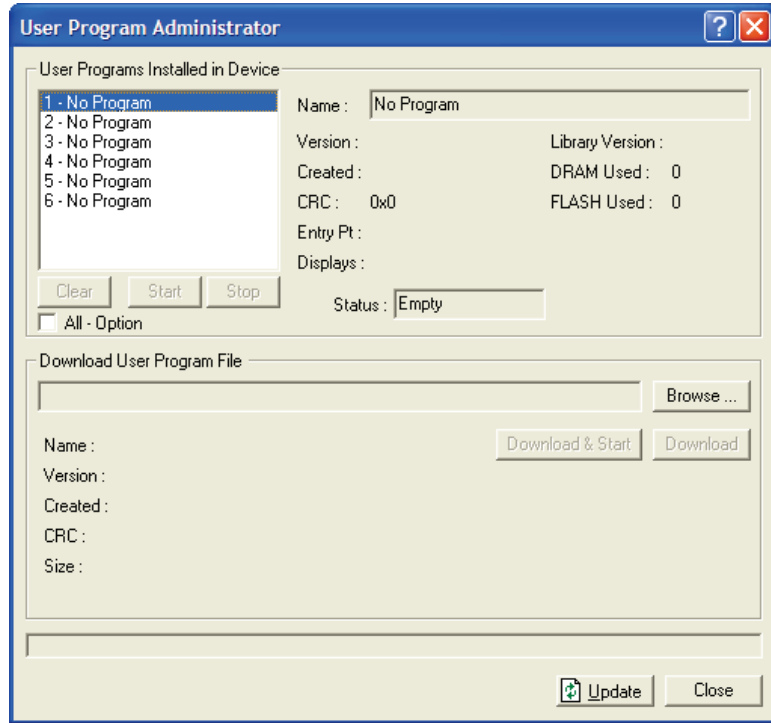

Figure 2-3. User Program Administrator
3. Select **Utilities > User Program Administrator** from the ROCLINK menu bar. The User Program Administrator screen displays (see *Figure 2-3*):
4. Click **Browse** in the Download User Program File frame. The Select User Program File screen displays (see *Figure 2-3*).